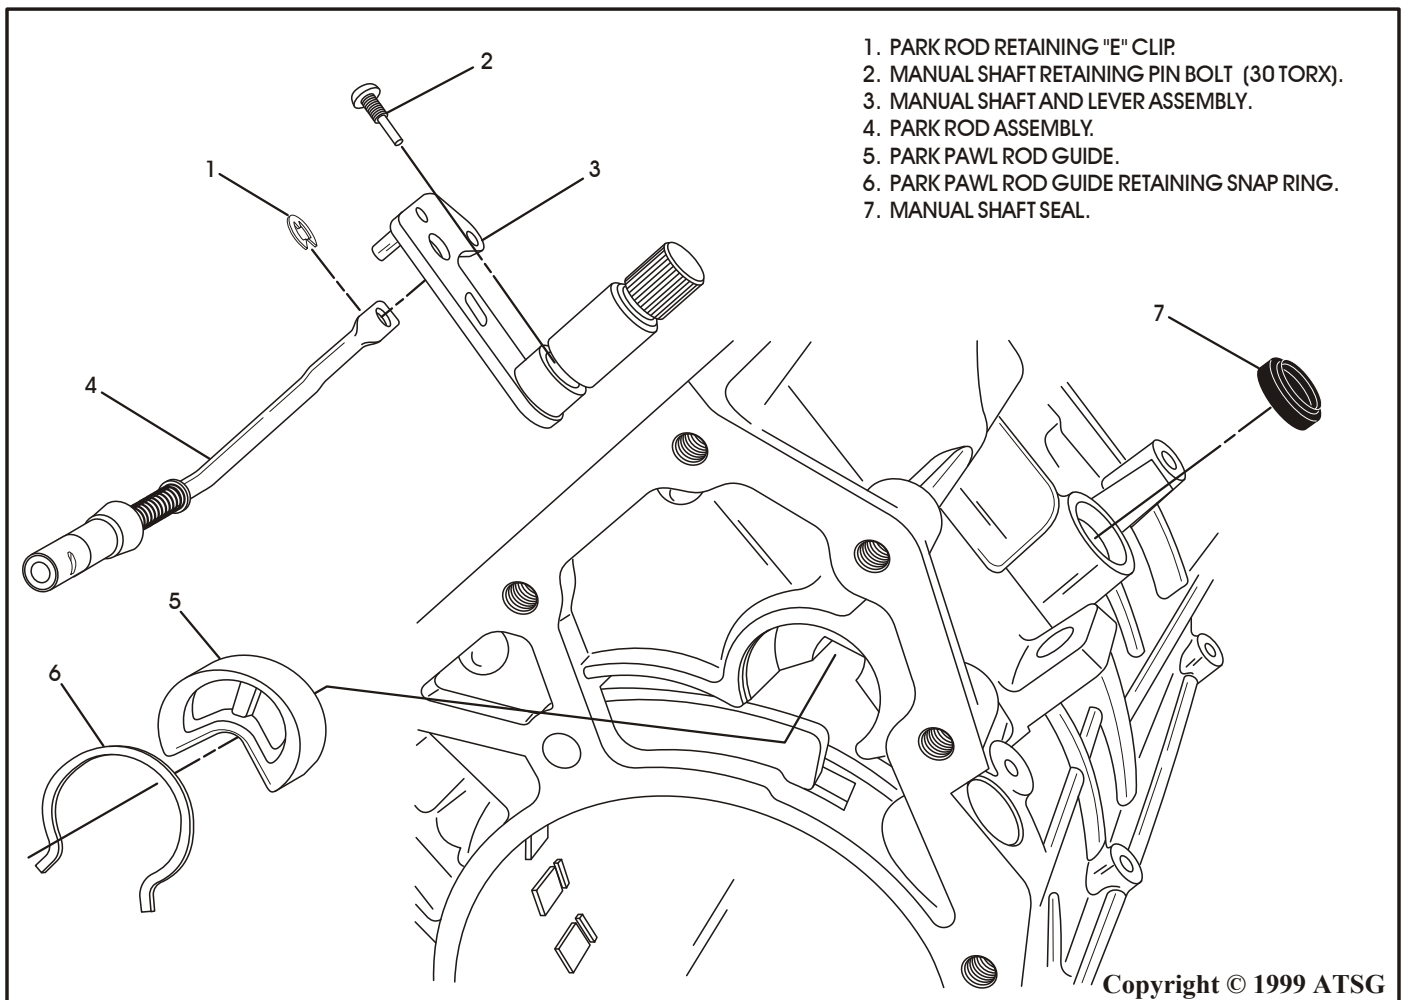

Figure 47
55. Remove and discard the manual shaft seal as shown in Figure 47.
- 56. Remove the park rod guide retaining snap ring from the case as shown in Figure 47.
- 57. Remove the park rod guide from the case, as shown in Figure 47.
2. Install the park rod guide into the transmission case, as shown in Figure 47.
4. Install a new manual shaft seal into the case using the proper size seal driver and insure that it is fully seated in bore (See Figure 47).
6. Install the manual shaft and lever assembly through the inside of case and into the manual shaft case bore as shown in Figure 47.